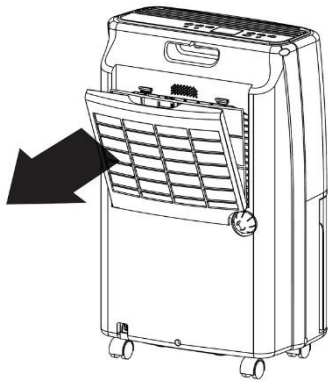

Fig. 1
- Grasp the top edge of the air filter and pull it toward you to remove the air filter from its holder (See Figure 1).